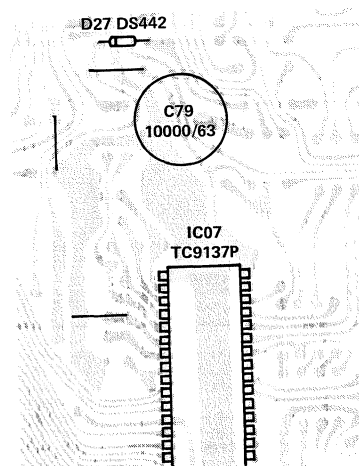

Figure 2
3. Connect Pin No. 6 of IC01 (TC9137P) to GND with a jumper lead. (Fig. 2).